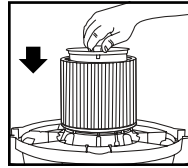

FIGURE 18
23. Place filter retainer into the top of the cartridge filter. **FIGURE 18.**